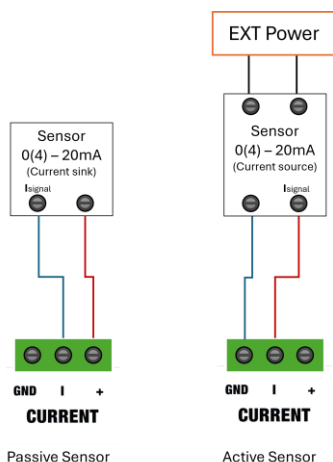

Figure 4: Current Sensor Connection (0/4–20 mA)
- **Current Input (0–20 mA / 4–20 mA):** Figure 4